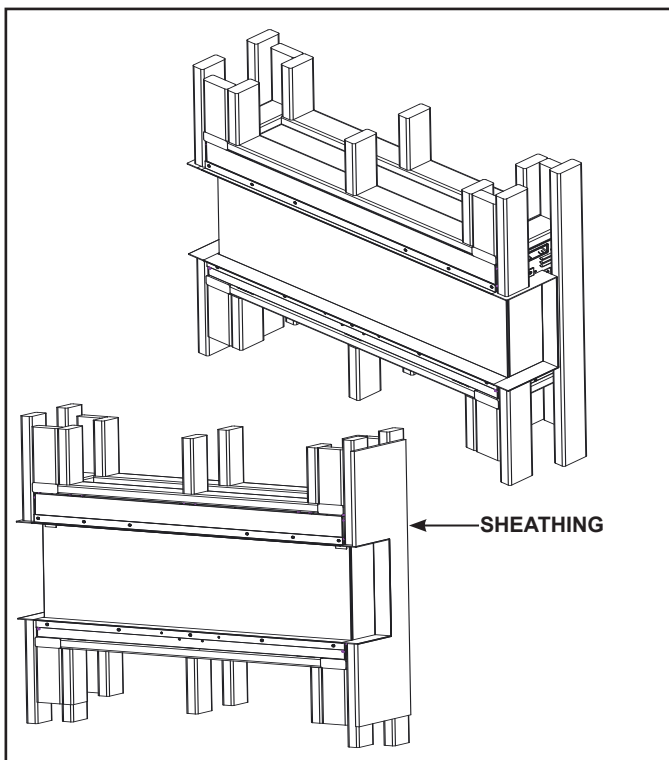

Figure 4.5 2 in. (51 mm) Side Trim Configuration
3. Install the appliance into the opening reference Figure 4.5. Ensure that weight of appliance is fully supported by floor or bottom framing member. Level with shims if necessary. Ensure that it is centered left to right, then fasten it directly to the framing with six (6) provided ST4x40 screws, one through each of the six (6) brackets.
Attach 2x4 framing members on the side of the framed appliance opening as shown in figure 4.5.